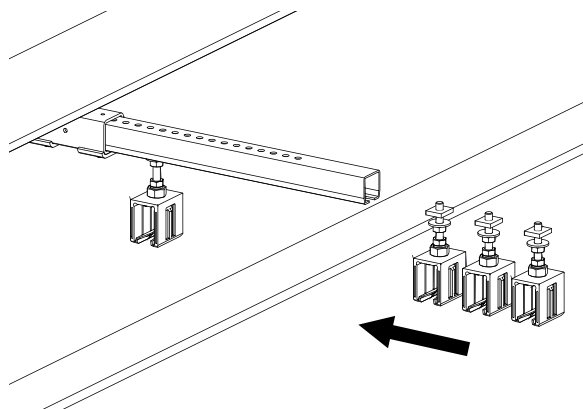

Fig. 53: Slide the next hanger clamp onto the support arm
- Slide the next hanger clamp into the support arm/C-rail (see Fig. 53).